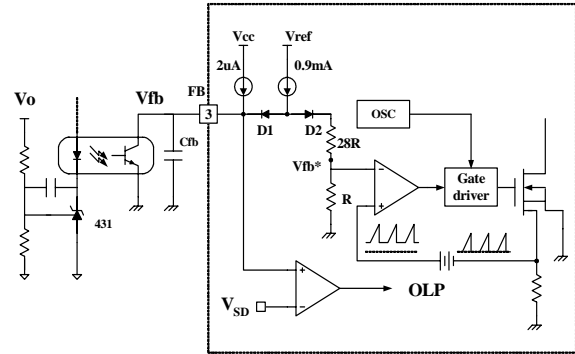

Figure 5. Pulse width modulation (PWM) circuit
**2. Feedback Control :** The FSDL0165RN employs current mode control, shown in figure 5. An opto-coupler (such as the H11A817A) and shunt regulator (such as the KA431) are typically used to implement the feedback network. Comparing the feedback voltage with the voltage across the Rsense resistor plus an offset voltage makes it possible to control the switching duty cycle. When the reference pin voltage of the KA431 exceeds the internal reference voltage of 2.5V, the H11A817A LED current increases, thus pulling down the feedback voltage and reducing the duty cycle. This event typically happens when the input voltage is increased or the output load is decreased.